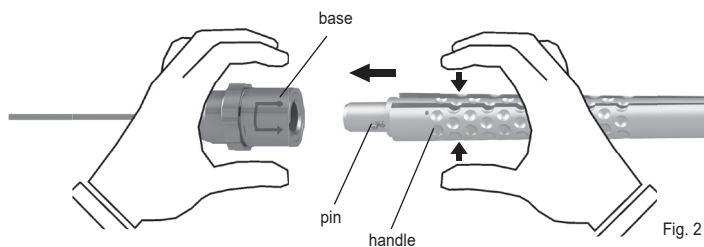

Fig. 2
- Hold tip and handle as shown in fig. 2 without exerting any pressure on the mechanism. Align pin on handle with arrow on tip.
- Assemble the instrument tip to the handle (see fig. 2, fig. 3, fig. 4):